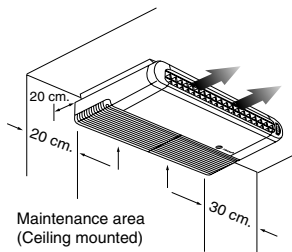

Figure 2
5. Recommended service clearance as shown in figure 2, 3 and 4.